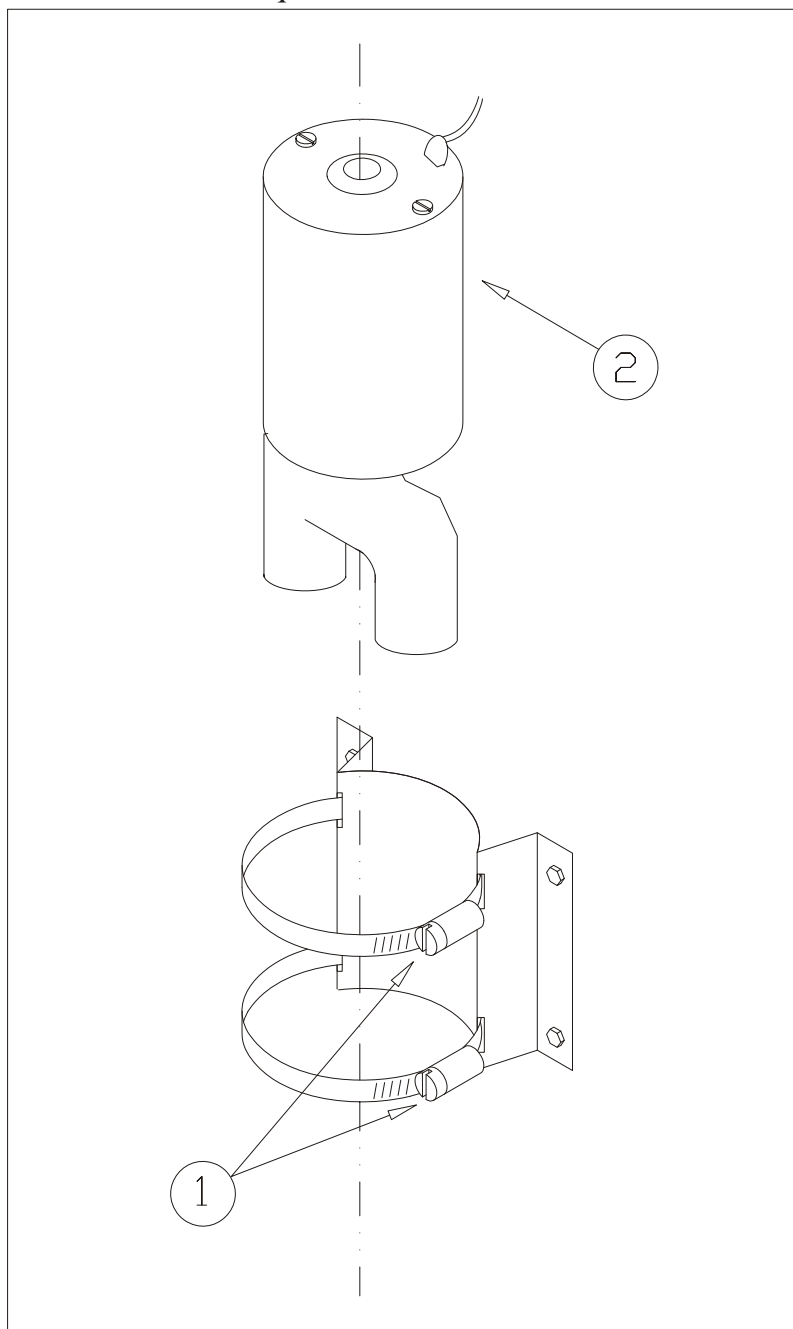

Figure 10
- 3 Loosen the screw clamps (1, figure 10).
- 4 Remove the boost pump (2).